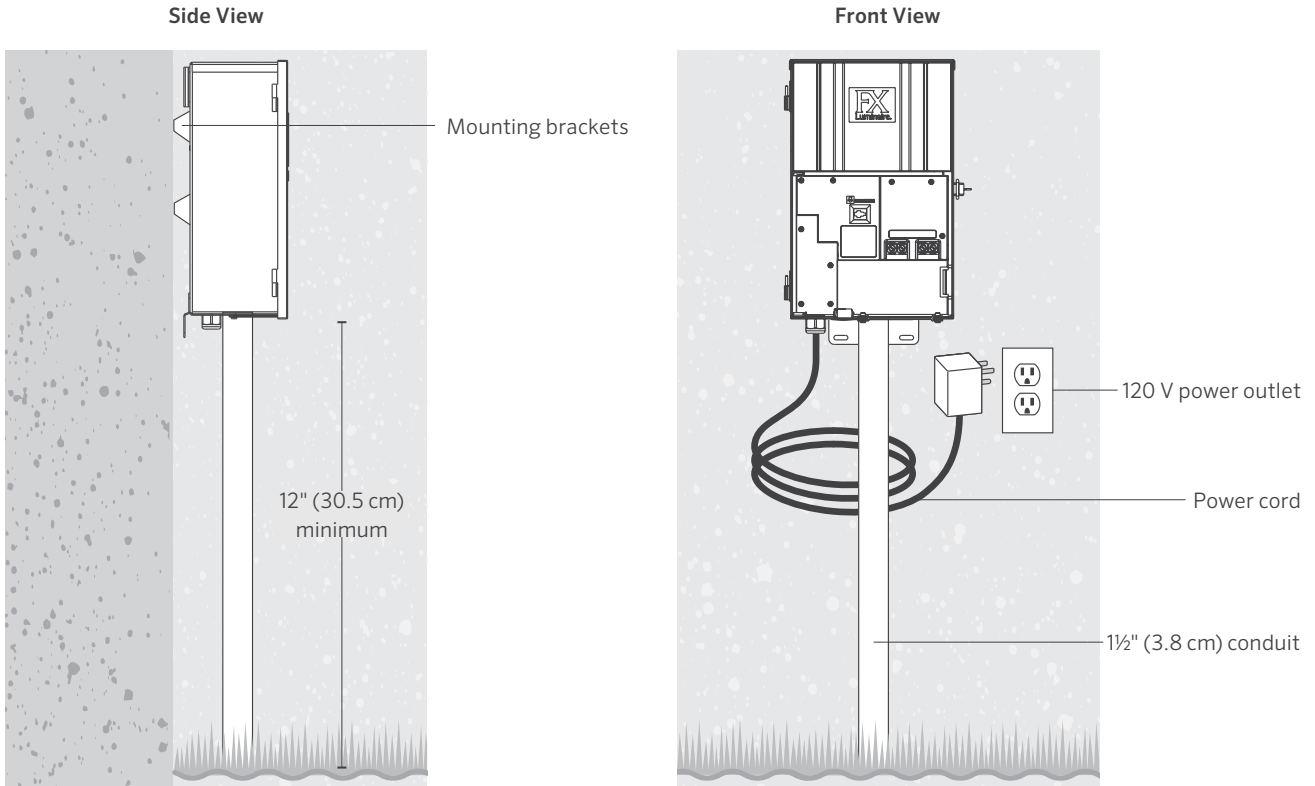

Figure 3: Luxor wall mounting
6. Repeat wall-mount installation instructions (Figure 3 on page 5), without the use of wall anchors.